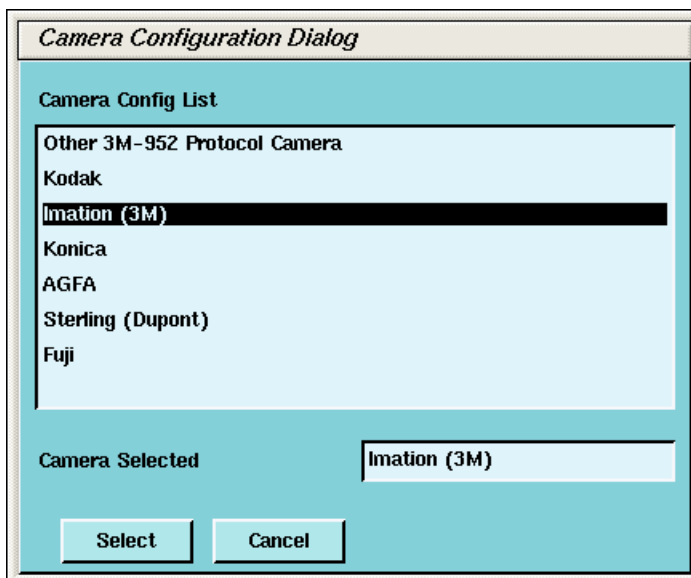

Figure 4-12 Camera Model Dialog (with DASM)
- 5.) To add a new laser camera, click DASM in the camera type dialog box. This brings up a list of available camera models. Select the appropriate model from the list and click SELECT (See Figure 4-12). Now you must configure it.